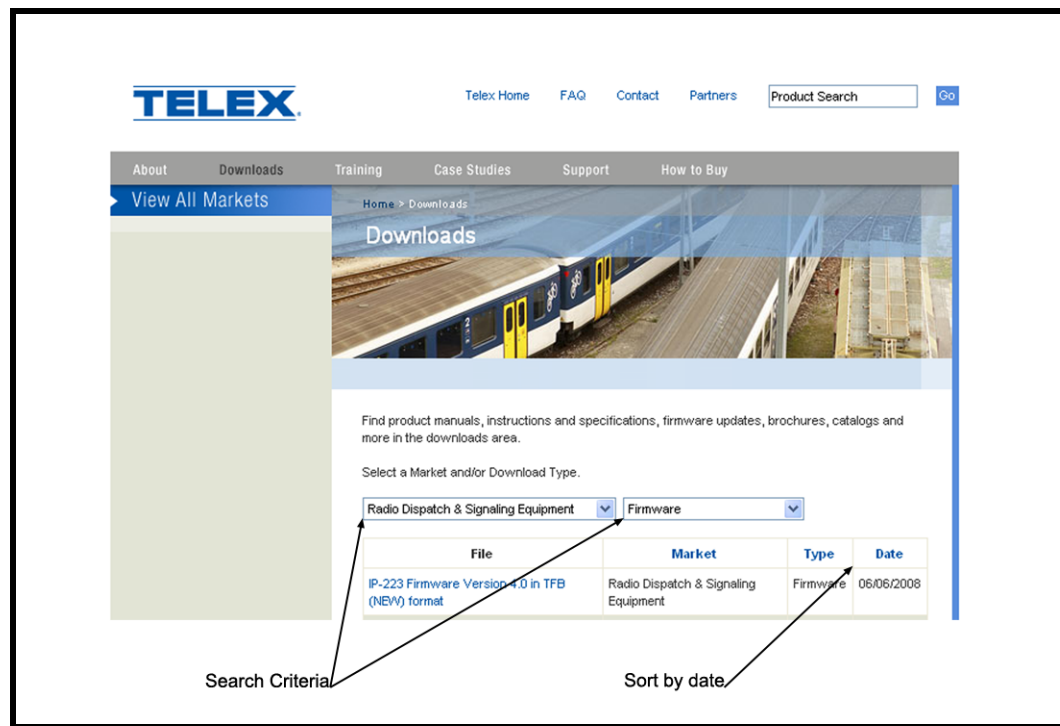

FIGURE 74. Telex Website Firmware Downloads.
1. Set the search criteria to **Radio Dispatch & Signaling Equipment** and **Firmware**, see Figure 74.